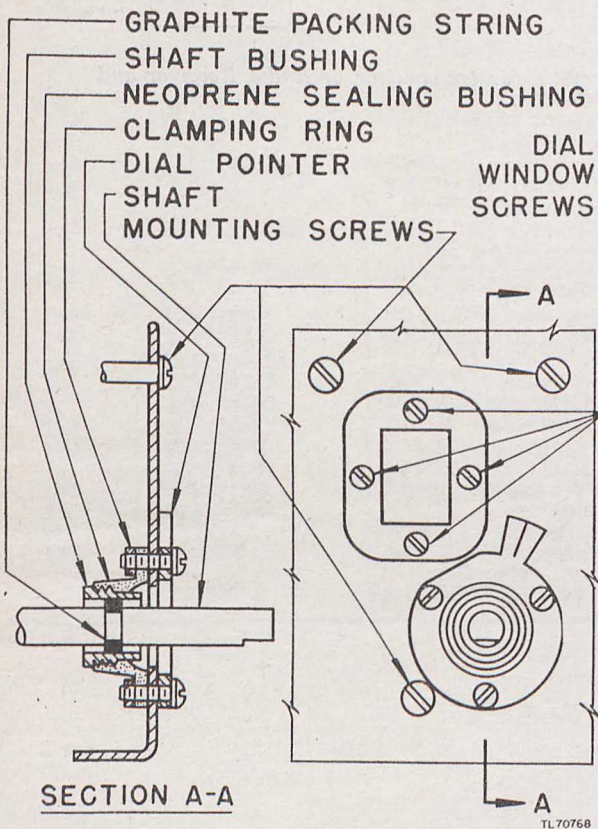

Figure 52. Detail of ganged tuning capacitor mounting in transmitter of Radio Receiver and Transmitter BC-1306.
(8) For detail of transmitter ganged tuning capacitor mounting, see figure 52.